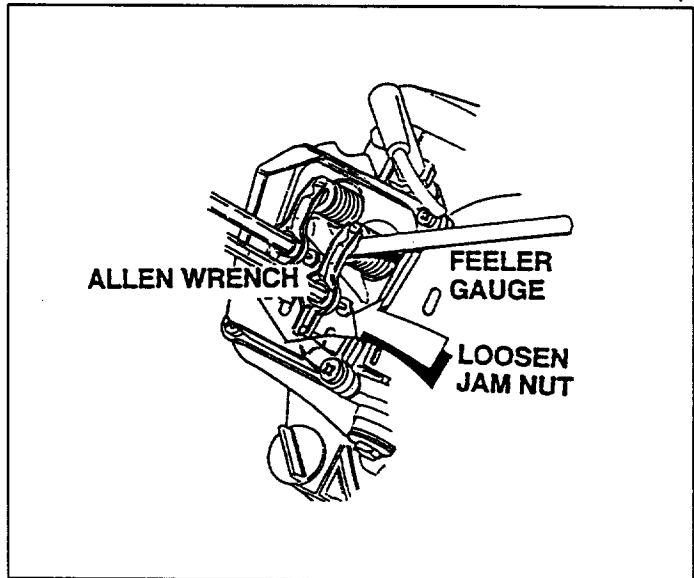

FIG. 12
- Loosen the rocker arm jam nut. Use an allen wrench to turn the pivot ball stud while checking clearance between the rocker arm and the valve stem with a feeler gauge (Fig. 12).